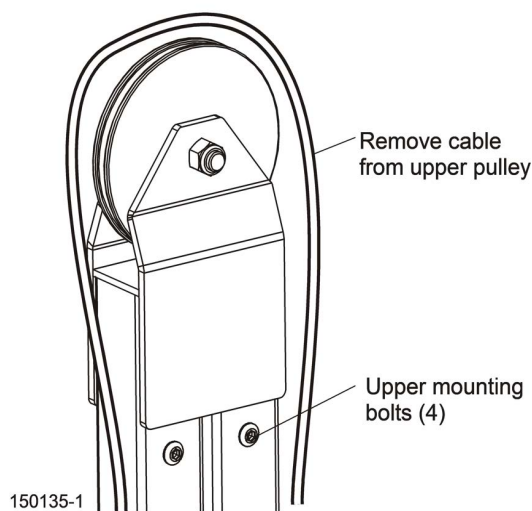

FIG. 6-6
3. Loosen (but do not remove) the tension adjustment bolt. Remove the cable from the top pulley and remove the four mounting bolts at the top of the assist assembly. See FIG. 6-6.